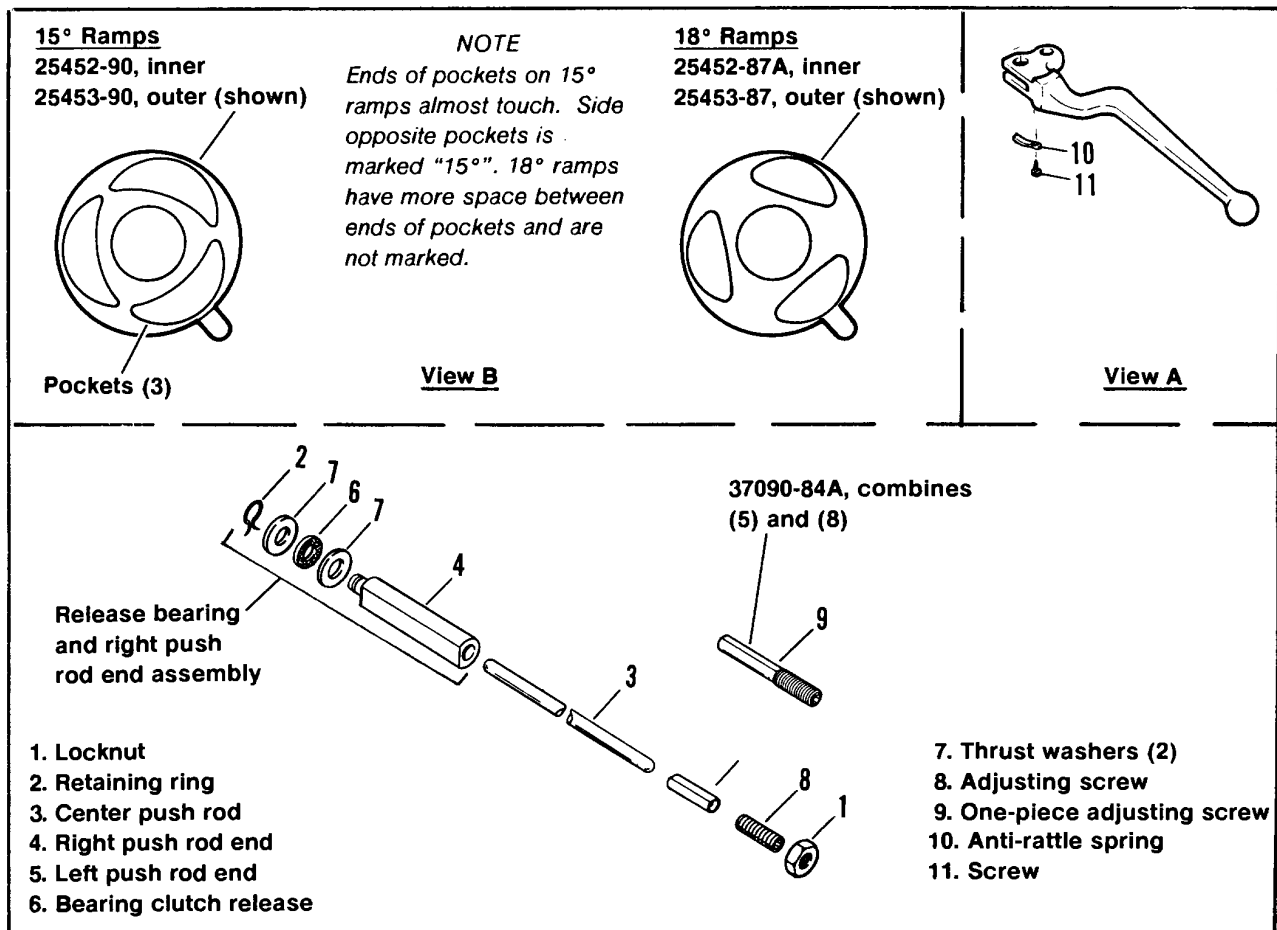

Figure 1. Clutch Release Components
See Figure 1. The left push rod end, Part No. 37090-84 and adjusting screw, Part No. 37357-84 have been replaced by a single item Part No. 37090-84A. This change reduces the possibility of clutch drag by decreasing any tendency for the clutch pressure plate to tip. This change was made to production vehicles in December, 1989.
See Figure 1, View B. Beginning **March 28, 1990**, **transmission number 90087042**, clutch release ramps, Part No. 25452-87A (inner) and 25453-87 (outer) will be used in production. These ramps will provide more movement (lift) to the push rod to further reduce the possibility of clutch drag. This change will slightly increase clutch lever effort.
See Figure 1, View A. During the installation of the one-piece adjusting screw and earlier release ramps, remove the anti-rattle spring (10) and its' retaining screw (11). The spring may affect free-play in the clutch lever and could cause the clutch throw-out bearing to be slightly loaded. That loading could cause premature failure of the throw-out bearing.
3. See Figure 1. With a magnet, remove the left push rod end (1).
4. Install new one-piece adjusting screw into release plate and install locknut (2) on adjusting screw. **DO NOT ADJUST PUSH ROD NOW**, adjust after release ramps have been installed.
1. Refer to pages 7-30 and 7-31 in the 1985 TO 1990 FX/SOFTAIL MODELS Service Manual, Part No. 99482-90 for instruction on removing release ramps and installing the earlier ramps. See Figure 1, View B for identification of release ramps.
2. See Figure 1. After transmission side cover has been removed, remove the clutch release bearing and push rod assembly and center push rod (3). Install a new release bearing if excessive wear or overheating of bearing is evident. Also inspect the center push rod (3) for wear or damage. Install new push rod parts if required.